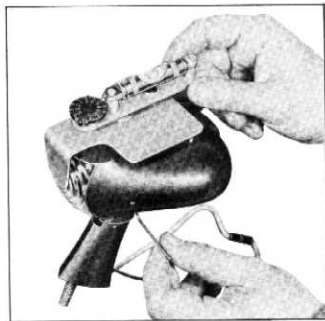

Fig. 67—Adjustment of Phototube Unit
6. If the bubble does not indicate level, adjust Phototube Unit aiming screw with the Allen wrench furnished with the Tester until the bubble is centered in the level (fig. 67).